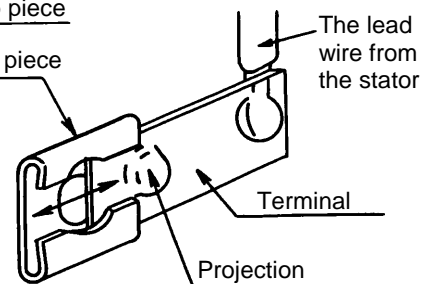

Fig. 3
- (1) In connecting the lead wire terminal to carbon brush ④⑥, the wire insertion shall be exercised toward the direction as are shown in Fig. 3 of the section pertaining to dis-assembly.